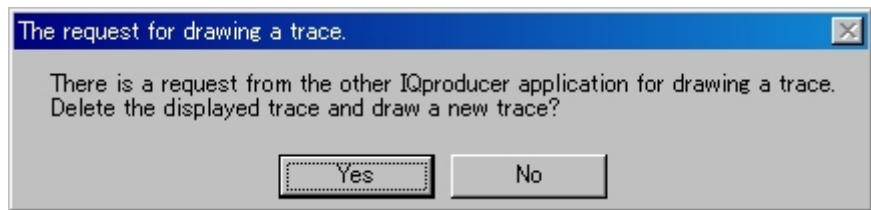

Figure 3.5-6 Confirmation message
2. When **Time Domain** is clicked in the **Simulation** menu or  is clicked, a message such as that shown in Figure 3.5-6 is displayed.